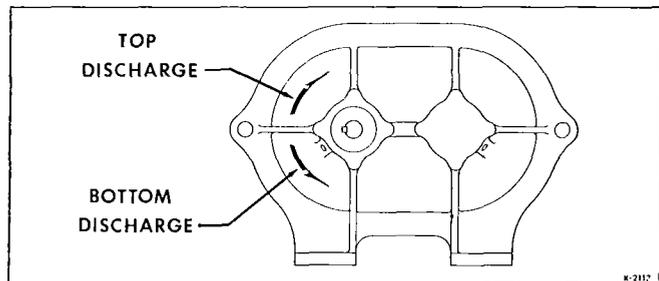

Figure 2 - Piping Connections for Different Shaft Rotations
8. Bump blower a few revolutions with driver to check that direction of rotation agrees with piping connections shown in Fig. 2, and that both units coast freely to a stop.
| No Air Flow | 1 | Speed too low | Check by tachometer and compare with speed shown on Roots Order Acknowledgment. Compare actual rotation with Figure 2. Change driver if wrong. Check piping, screen, valves, silencer, to assure an open flow path. |